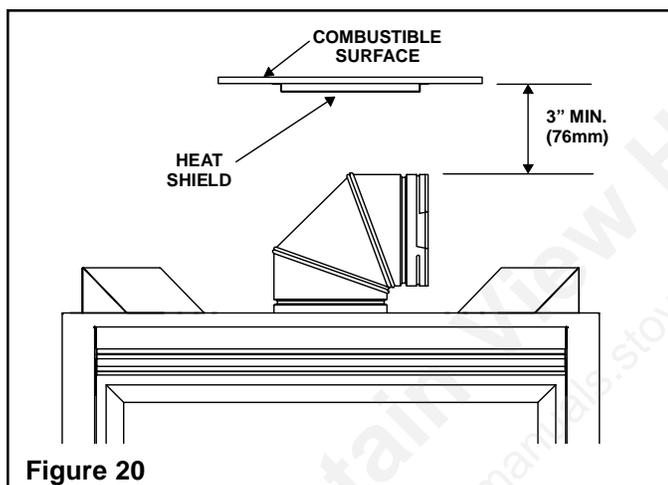

Figure 20
1. Determine if the heat shield is required. Do so by measuring the vertical distance between the top horizontal surface of the elbow to any combustible surface above. If the distance is more than 4 inches, the heat shield is **NOT** required. If it is 4 inches or less, the heat shield **IS REQUIRED**. Install per the following steps. See Figure 20.